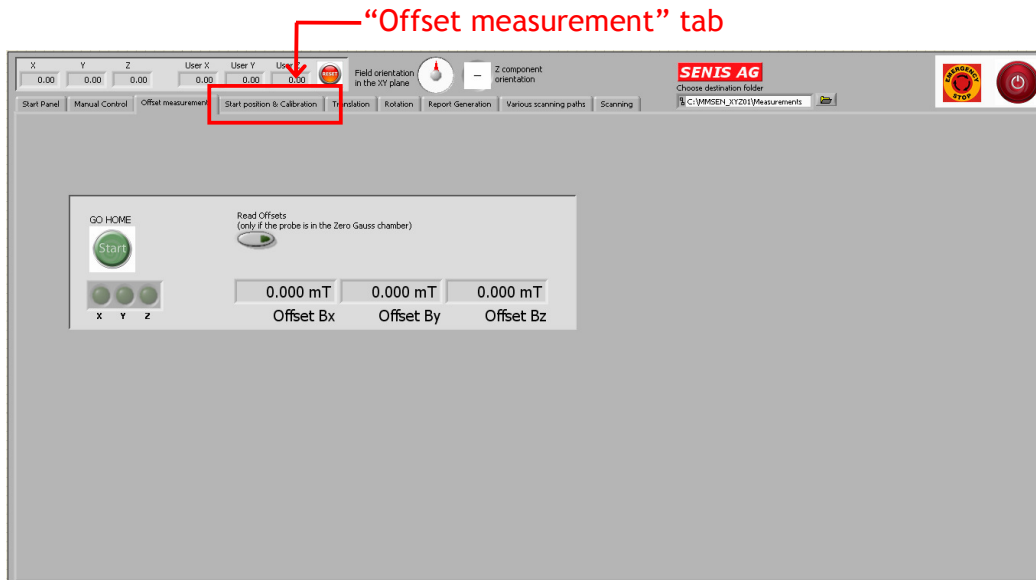

Figure 21: "Offset measurement" tab
11) Select the "Offset Measurement" tab (Figure 21);